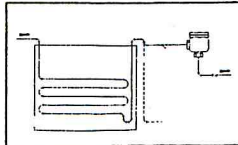

Fig. 4.7 – Recommended piping diagram for applications where condensate must be lifted to the trap.
- 1.12 If trap must be located above equipment drained, and whenever condensate is lifted to the trap, provide a water seal at the bottom of the riser. See "Recommended Piping Layouts", Fig. 4.7.